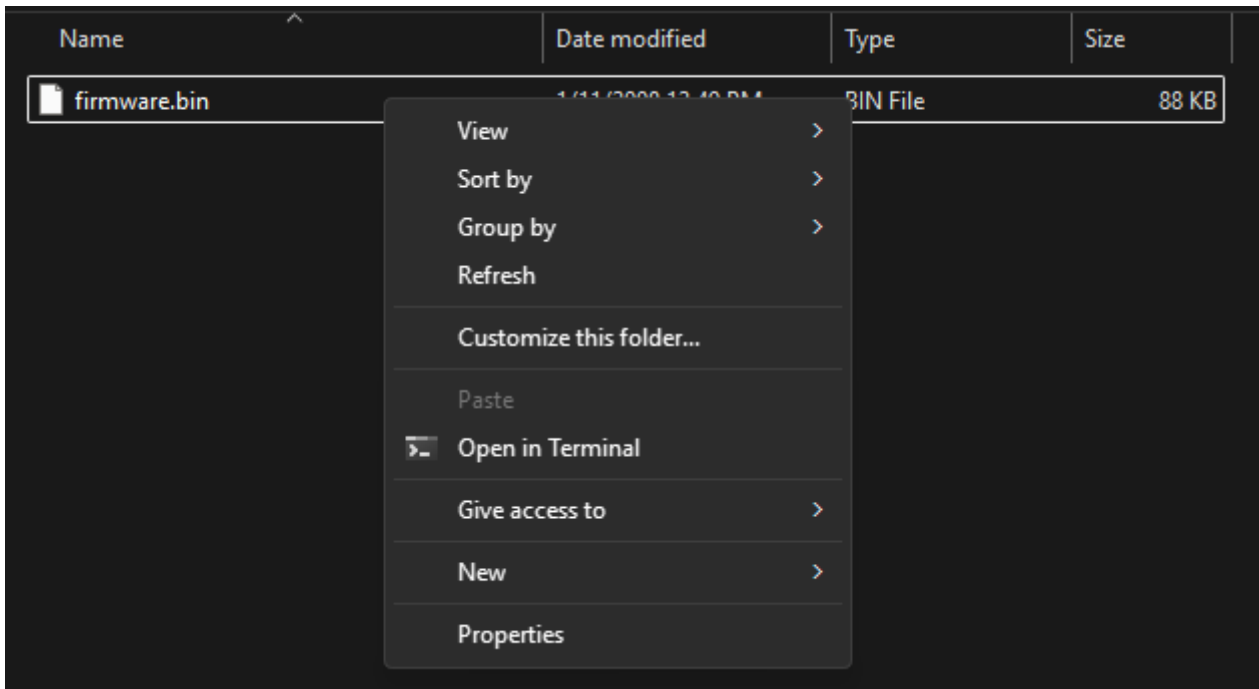

Figure 5 Delete current firmware
10. Delete the existing "firmware.bin" file (see Figure 5).